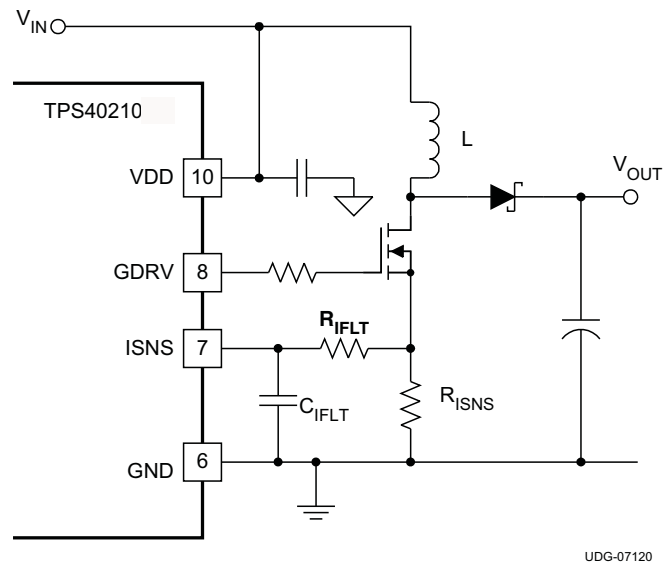

Figure 24. Current Sense Components
- V_D is the drop across the diode in Figure 24
- V_D is the drop across the diode in Figure 24 (10)
It is possible to increase the voltage compensation ramp slope by connecting the VDD pin to the output voltage of the converter instead of the input voltage as shown in Figure 24. This can help in situations where the converter design calls for a large ripple current value in relation to the desired output current limit setting.
In most cases, a small filter placed on the ISNS pin improves performance of the converter. These are the components R_{IFLT} and C_{IFLT} in Figure 24. The time constant of this filter should be approximately 10% of the nominal pulse width of the converter. The pulse width can be found using Equation 11.